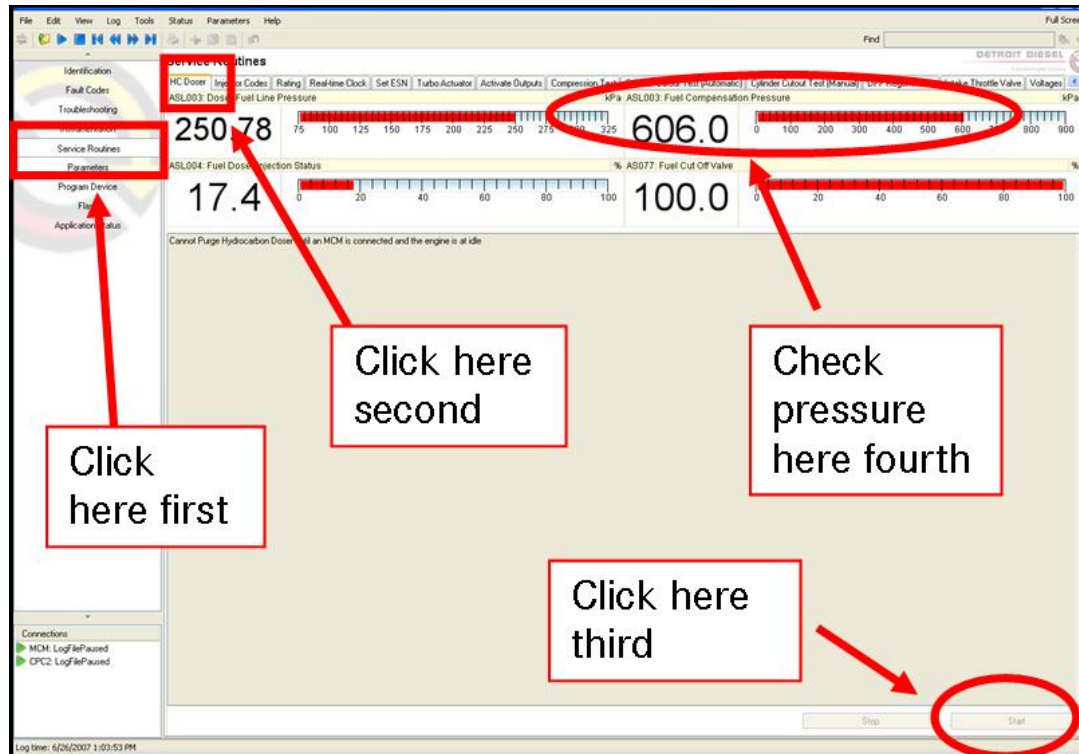

Figure 3 – DDDL/DRS 7.0 “HC Doser” Service Routine
- Start a hydrocarbon (HC) doser purge service routine by doing the following:
2. Make sure the transmission is in neutral and the parking brake set (ON).
3. Using either DDDL 7.0 or DDRS 7.0, attach the diagnostic computer to the vehicle. Click on the “Service Routines” button on the left side of the screen, and then click on the “HC Doser” tab near the top. See Figure 3.